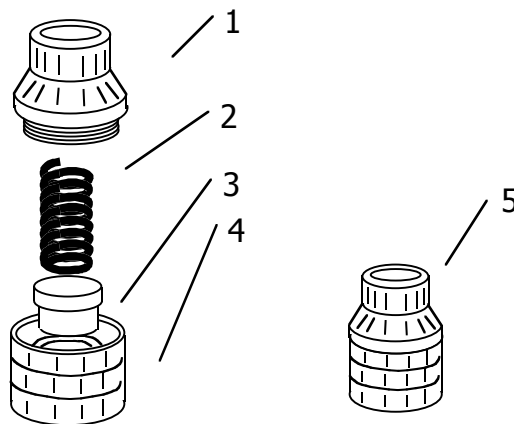

Figure 3
Assemble the capping device as shown in Figure 3, by inserting the magnet (3) into the collar (4), followed by the spring (2) and the bolt (1).